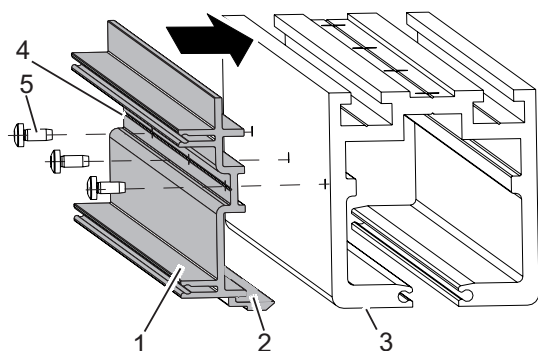

Fig. 39: Mounting the track cover
1. Place the plastic element (Fig. 39/1) to the track so that the surface (Fig. 39/2) rests on the lower edge (Fig. 39/3) of the track.
2. Place the drill inside the plastic groove (Fig. 39/4) and drill holes with \varnothing 4.6 mm through the track at a distance of 400 mm.
4. Fasten the plastic element with the enclosed self-threading M5 screws (Fig. 39/5). Tighten with TX25.